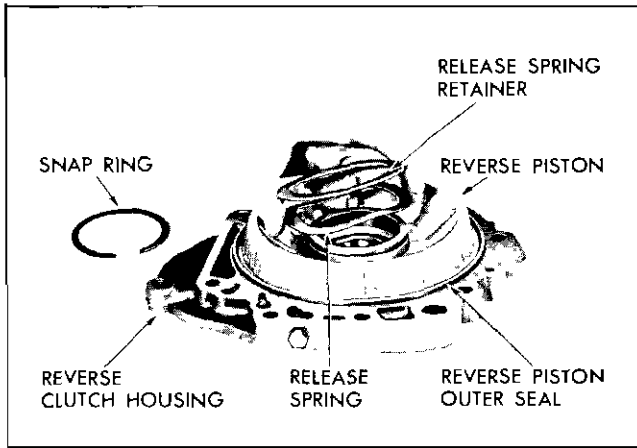

Fig. 124 Removing Snap Ring, Reverse Piston Release Spring and Retainer
1. Remove large snap ring retaining wave type reverse piston release spring and retainer (Fig. 124).